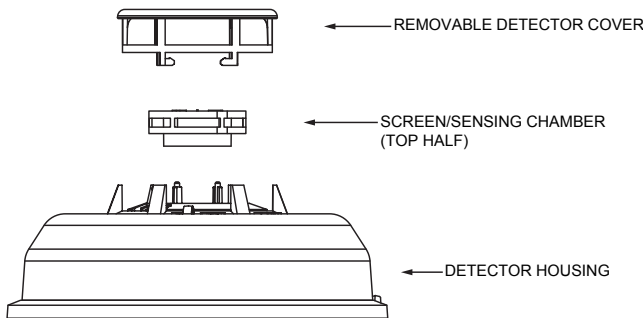

Figure 4: Removing Screen/Sensing Chamber
1. An opening for the recessed test switch is located on the detector housing (See Figure 4).
3. Remove the top half of the screen/sensing chamber by lifting straight up (Figure 4).